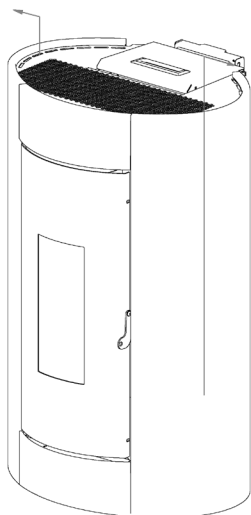

Fig. 58 - Remove side panels
- Unhook the side panels from low to high (see **Fig. 58**).